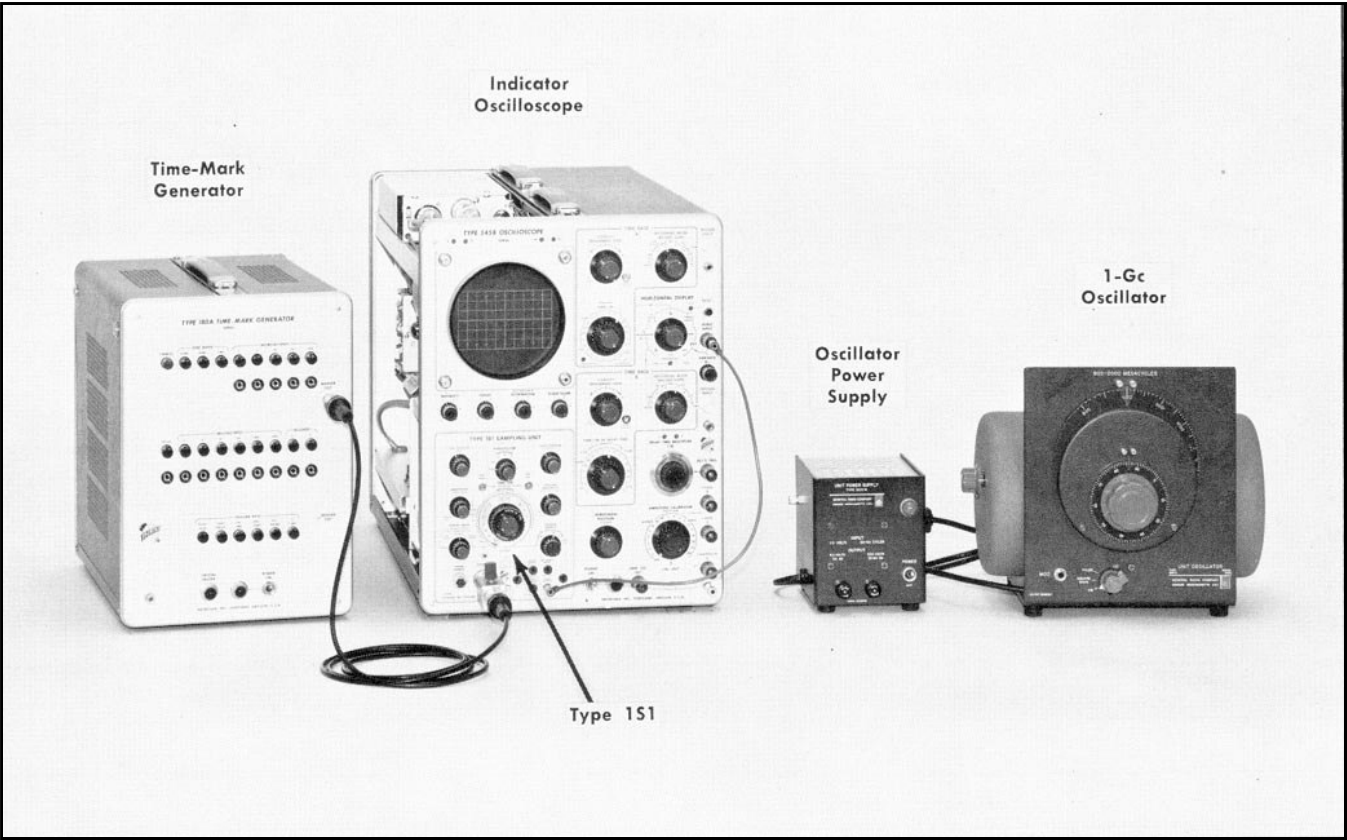

Fig. 5-52. Initial test equipment setup for steps 36 through 40.
- Test equipment setup is shown in Fig. 5-52.